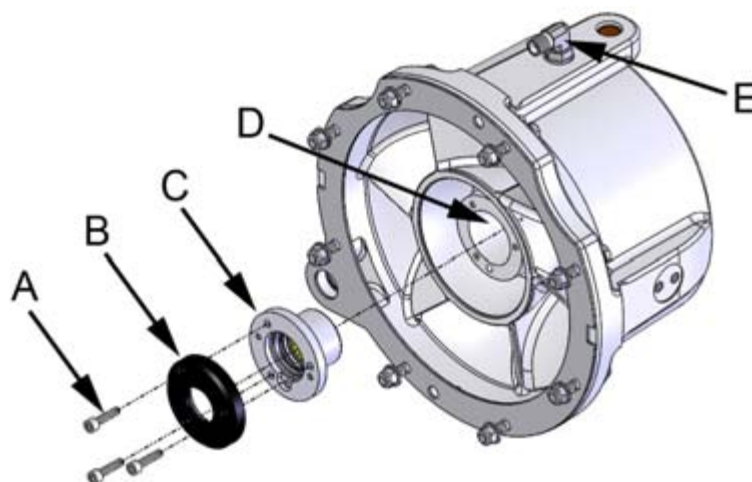

Figure 37. Installing the bearing housing cover
2. Clean the rear end bearing lubrication channel located on the stator (figure 37, point E) of old grease.
3. Push the bearing housing (figure 37, point C) into the stator hole (figure 37, point D) in the correct position so that the holes of the three fastening screws (figure 37, point A) are aligned. This is when the housing is in the correct position.
4. Install the cover (figure 37, point B) in place and tighten the fastening screws.
5. Remove excess adhesive compound from the hole (figure 37, point D).